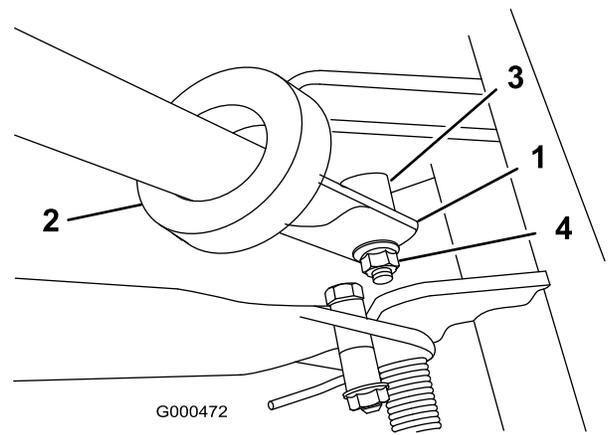

Figure 8
3. Squeeze the handle ends inward and install them on the step of the pivot pin (Figure 8).
4. Secure the handle to the bolt and pivot pin with the flange lock nut (Figure 8).
2. Insert the handle ends through the slots in the handle support arms (Figure 8).